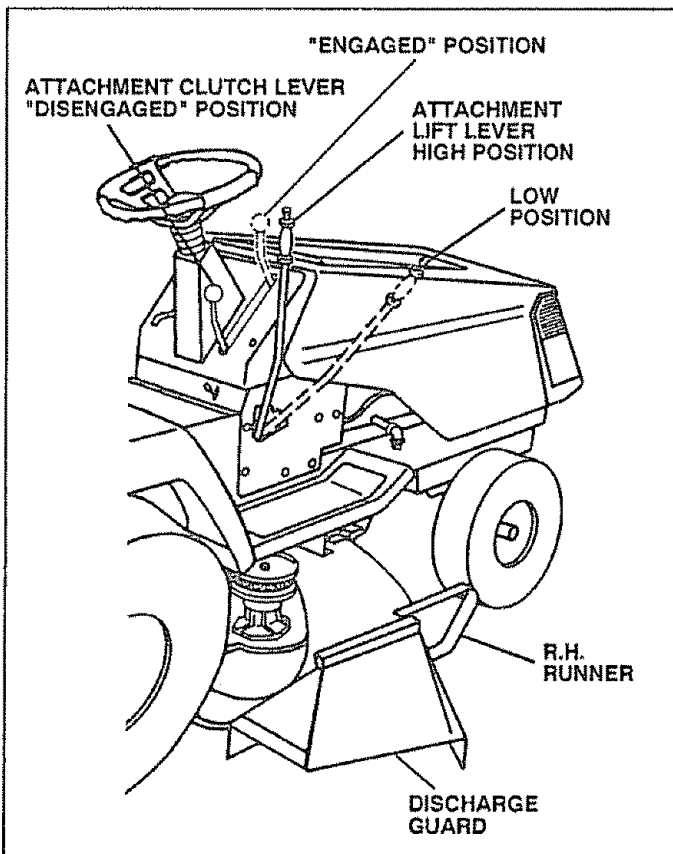

FIG. 8
TO OPERATE MOWER (See Fig. 8)
- Use the runner on the right hand side of mower as a guide. The blade cuts approximately an inch outside the runner (See Fig. 8).